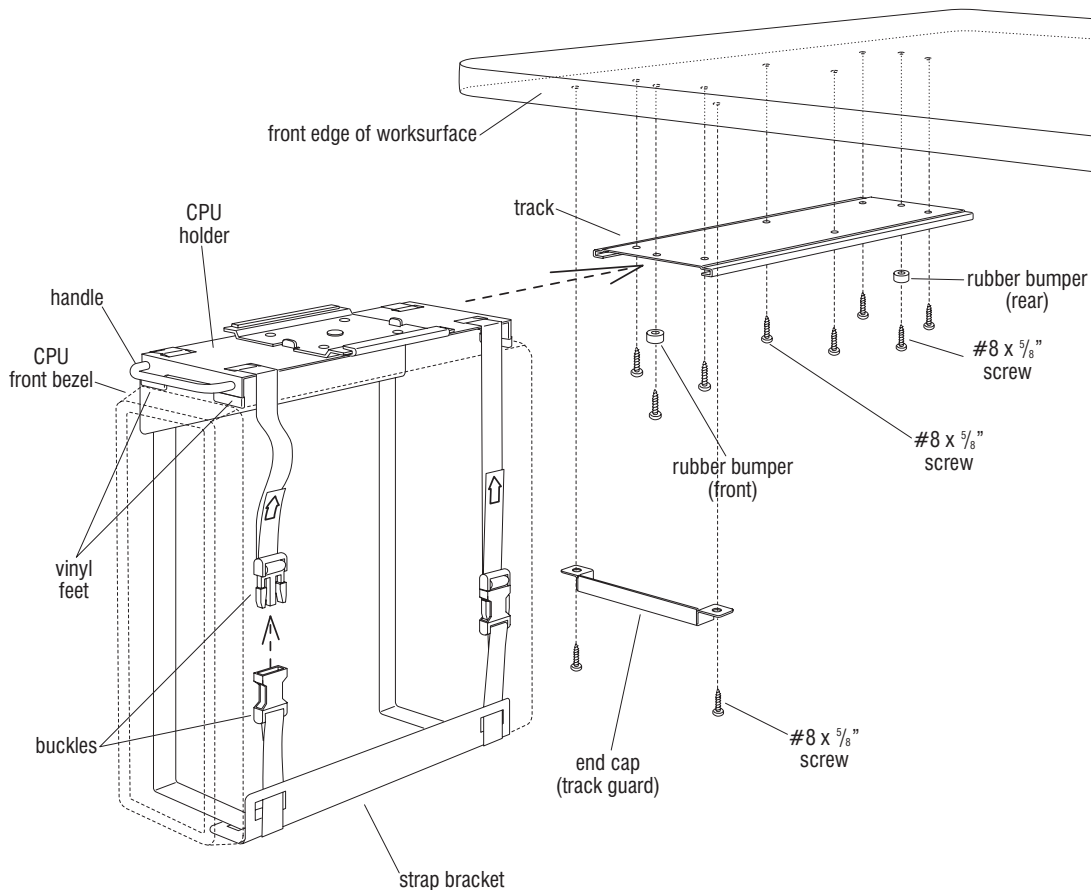

Figure 2
7. Mount the track to the underside of the worksurface at the six outside mounting holes using the #8 x $\frac{5}{8}$ " screws provided. Press a rubber bumper onto a #8 x $\frac{5}{8}$ " screw and install bumper into the rear, center hole in the track. Make sure all screws are tight (Figure 2).
8. Slide the assembled unit and CPU into the grooves on the track until it stops at the rear rubber bumper. Press a rubber bumper onto the remaining #8 x $\frac{5}{8}$ " screw and install the bumper and screw into the front center hole in the track (Figure 2).
9. Position the end cap (track guard) in front of the track at the underside of the worksurface. Mark the two mounting hole locations (Figure 2).
11. Mount the end cap (track guard) to the underside of the worksurface with two #8 x $\frac{5}{8}$ " screws (Figure 2).